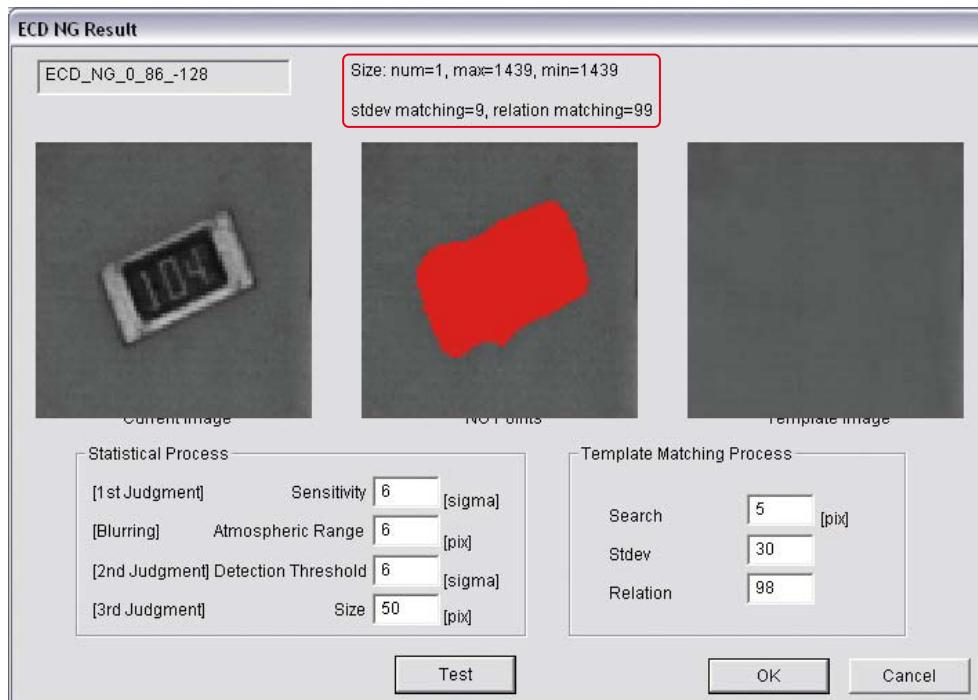

Figure 3-23 ECD Debug
Step1: Right-click the red square frame and the window shown in Figure 3-23 appears.